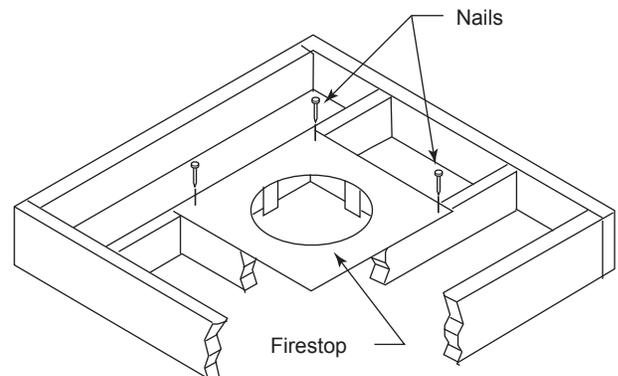
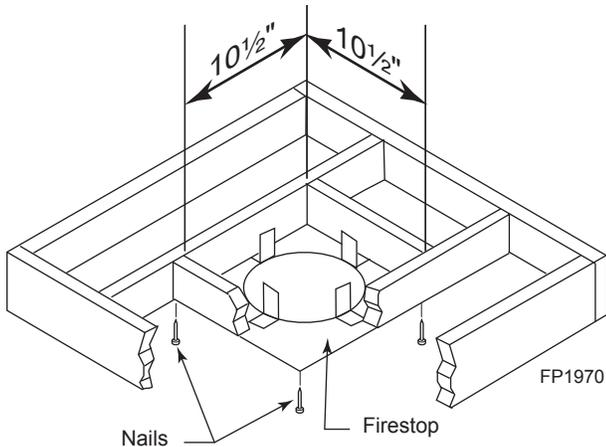

Figure 24 - If Area Above is a Room, Install Firestop above Framed Hole as Shown
Figure 25 - If Area Above is Not a Room, Install Firestop above Framed Hole as Shown
1. Cut a 10½" (241 mm) square hole in the ceiling using the locating hole as a center point. The opening should be framed to 10½"x10½" (241 x 241 mm) inside dimensions as shown in Figure 25 using framing lumber the same size as the ceiling joist. If the area above the ceiling is an insulated ceiling or a room, nail firestop from the top side. This prevents loose insulation from falling into the required clearance space. Figure 24. Otherwise, install firestop below the framed hole. Figure 25